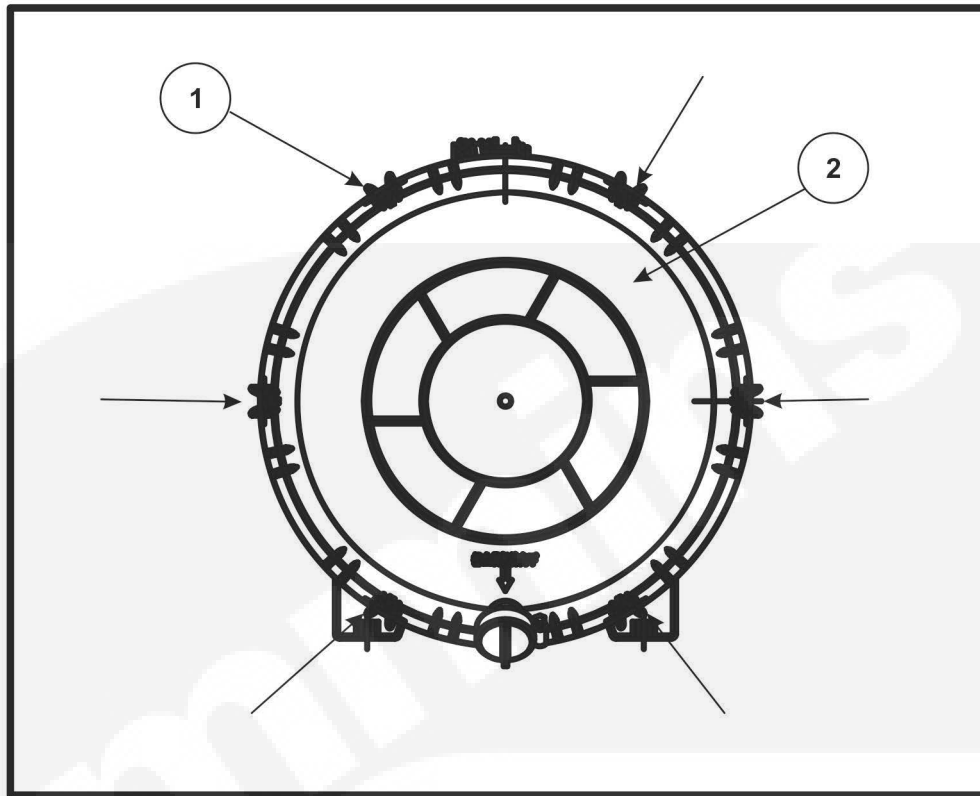

FIGURE 16. HEAVY DUTY AIR CLEANER
2. Release the six retaining clips (1) Figure 16 on page 31.
3. Remove the cover (2) Figure 16.